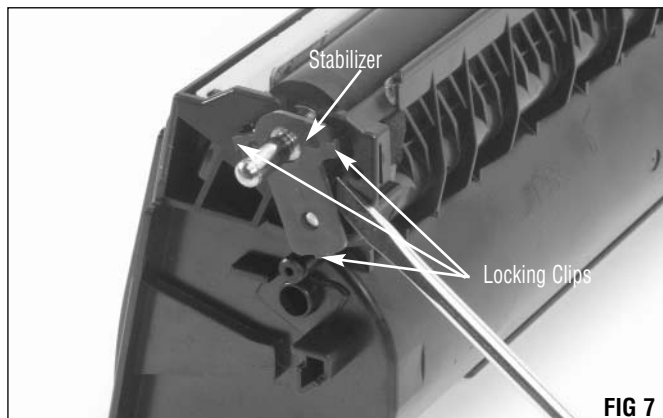

FIG 7
- Using a flat blade screwdriver, remove the stabilizer by releasing the locking clip (FIG 7).